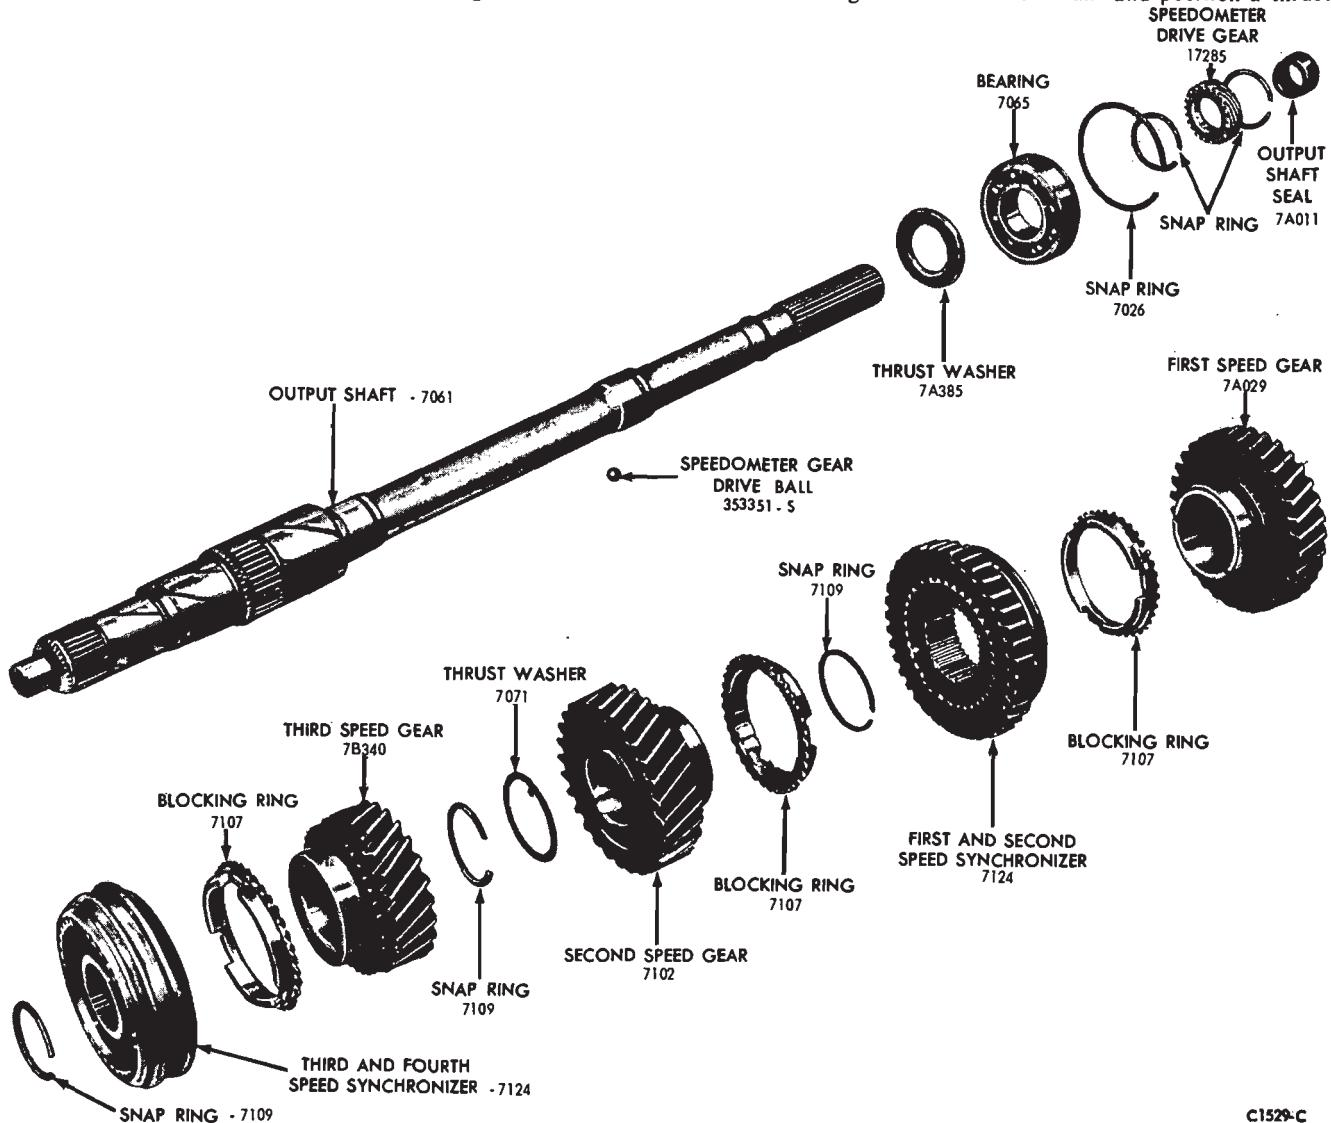

FIG. 13—Output Shaft Disassembled
22. Remove the snap ring from the front of the output shaft. Slide the third and fourth-speed synchronizer (Fig. 13) blocking ring and the third-speed gear off the shaft.
11. Install the first and second-speed synchronizer onto the front of the output shaft (Fig. 13) making sure that the shift fork groove is toward the rear of the shaft. The first and reverse synchronizer hub is a press fit on the output shaft. To eliminate the possibility of damaging the synchronizer assembly, install the synchronizer hub with the teeth end of the gear facing toward the rear of the shaft, using an arbor press as shown in Part 16-03, Fig. 20. Do not attempt to remove or install the hub by hammering or prying.